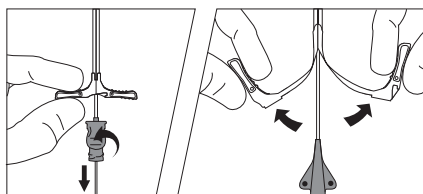

Figure 4
- Grasp tabs of peel-away sheath and pull apart, away from catheter while withdrawing from vessel (refer to Figure 4) until sheath splits down its entire length.